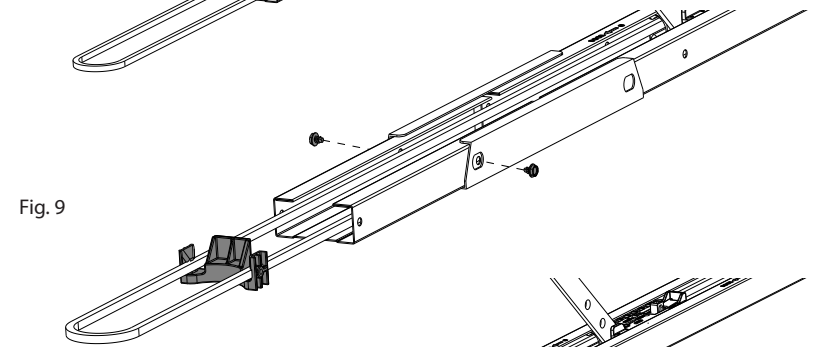

Fig. 9
12. Slide the pulley guard into the rail. Position the chain through the alignment slots of the pulley guard. Insert the two pulley guard screws and tighten. The screws should align with the clearance holes on the rail coupler. Fig. 9